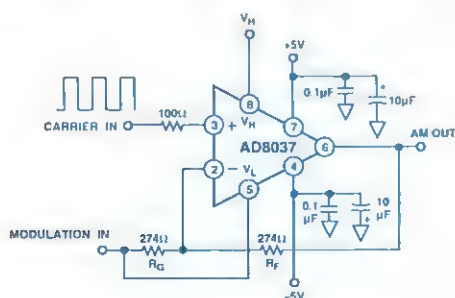

Figure 12. Amplitude modulator.
**Amplitude Modulator:** In addition to its use as an amplitude demodulator (AM detector), the AD8037 can also be configured as an amplitude modulator as shown in Figure 12. In this figure, a high-frequency carrier is modulated by a lower frequency signal.
- Chip capacitors (0.01 to 0.1  $\mu$ F) should be used to bypass supply and fixed-input clamp pins (see Figure 12). One end should be connected to the ground plane, the other within 1/8" of each power and clamp pin. An additional 0.47 to 10- $\mu$ F tantalum electrolytic capacitor should be connected in parallel, though not necessarily so close, to handle large load-current transients. Some brands of electrolytic capacitors will require a small series damping resistor  $\approx 4.7 \Omega$  for optimum results.